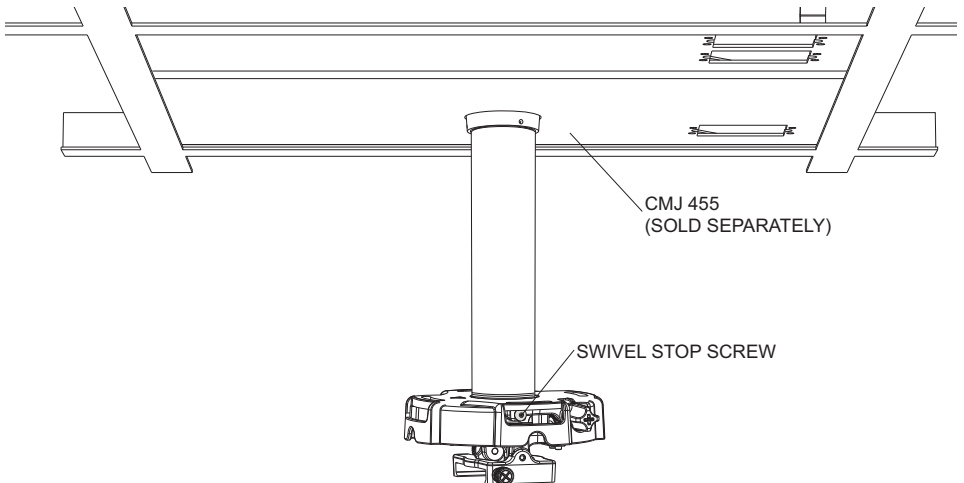

fig. 1.2
Tighten swivel stop screw against extension column, flush mount tube or reducer using 4mm security allen wrench (I) as shown in **figure 1.2**.